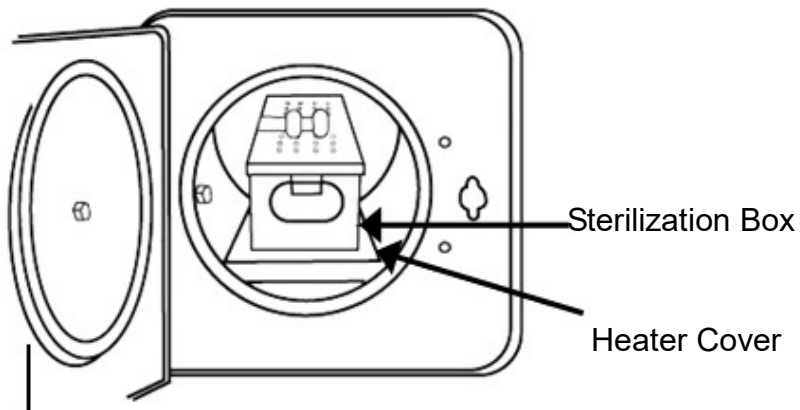

Figure 34 – Sterilization Box
H. Install the Sterilization Box as shown in Figure 34. (optional accessory)